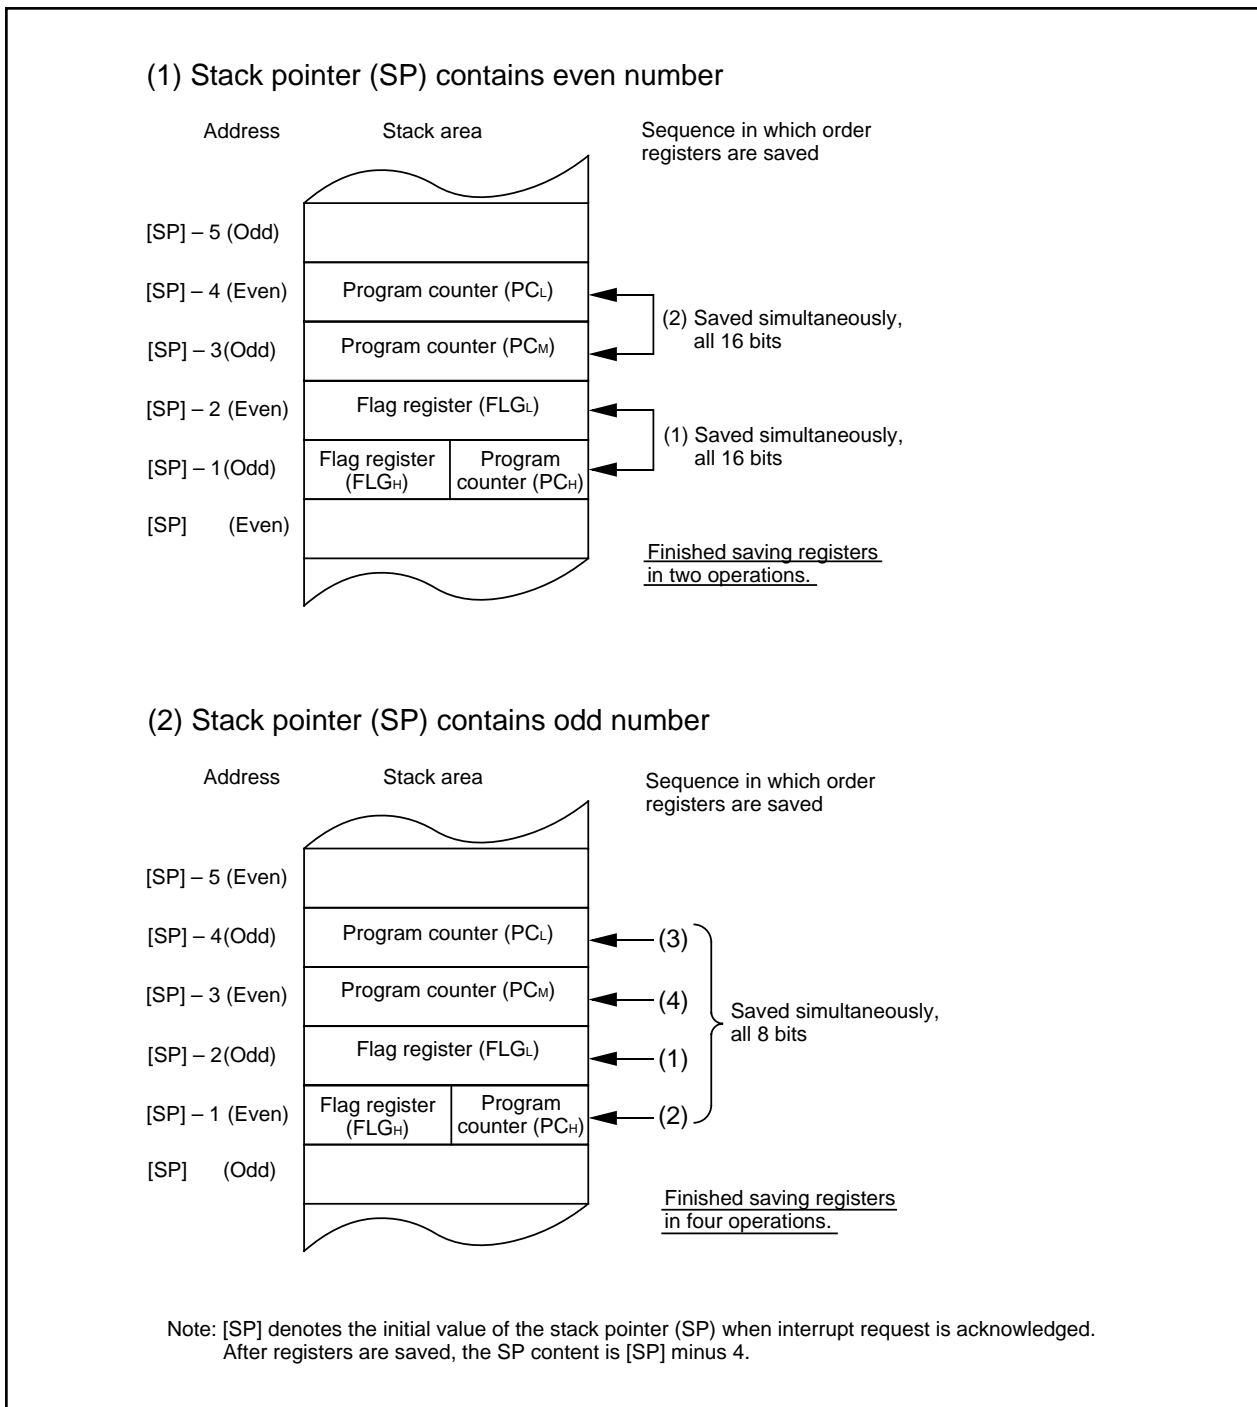

Figure 2.7.7 Operation of saving registers
The operation of saving registers carried out in the interrupt sequence is dependent on whether the content of the stack pointer, at the time of acceptance of an interrupt request, is even or odd. If the content of the stack pointer (Note) is even, the content of the flag register (FLG) and the content of the program counter (PC) are saved, 16 bits at a time. If odd, their contents are saved in two steps, 8 bits at a time. Figure 2.7.7 shows the operation of the saving registers.